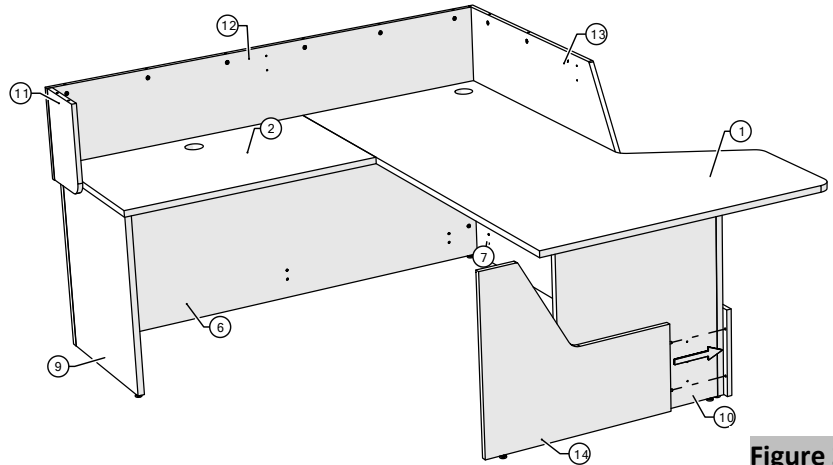

Figure 24
27. Connect the angled reception countertop gable to the angled reception countertop modesty front and press tightly together by inserting the wooden dowels into the holes of the angled reception countertop modesty front (Figure 24).